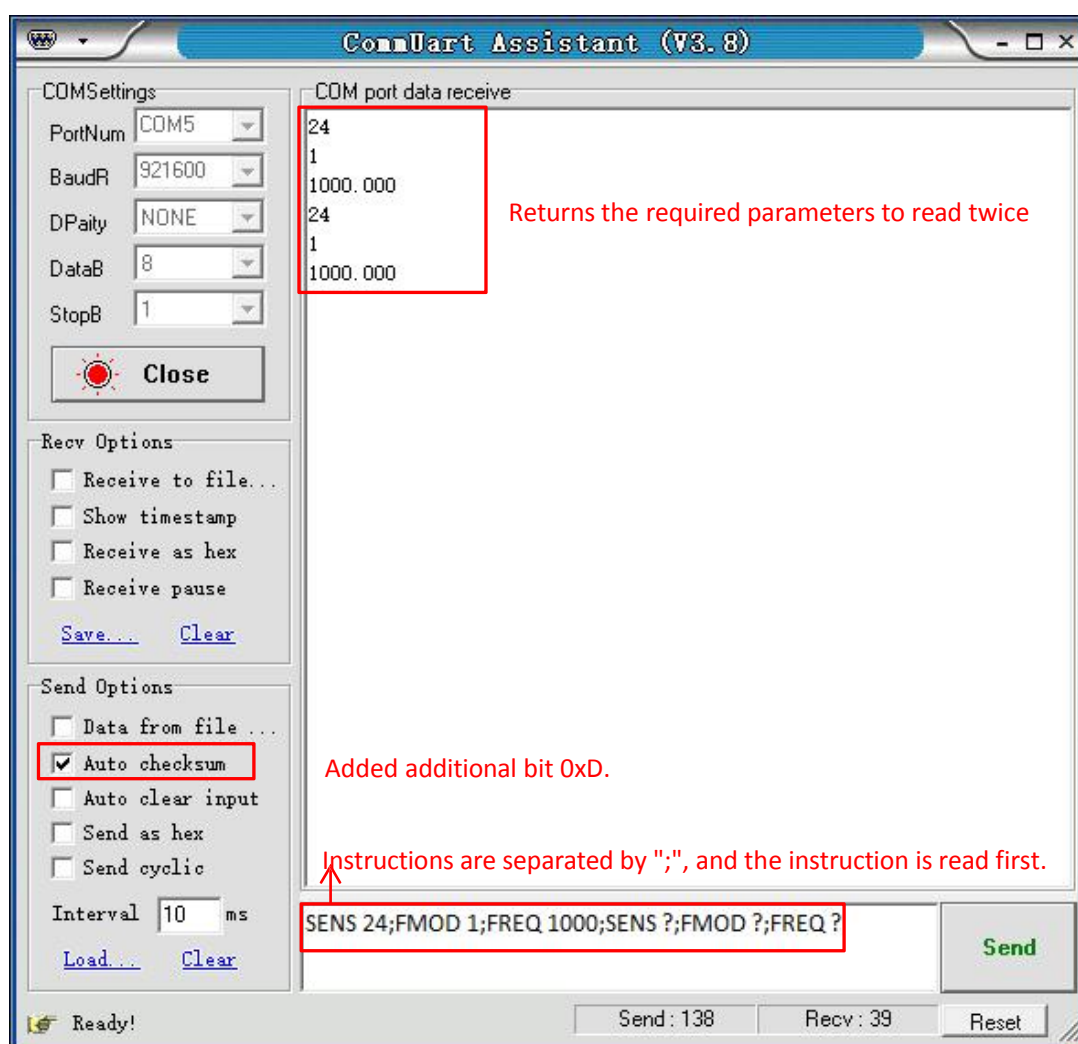

Fig.112 The execution of multiple commands
(3) Multiple commands are separated by “,”, such as “SENS 24;FMOD 1;FREQ 1000;SENS ?;FMOD ?; FREQ ?”, as is shown in Fig.112.